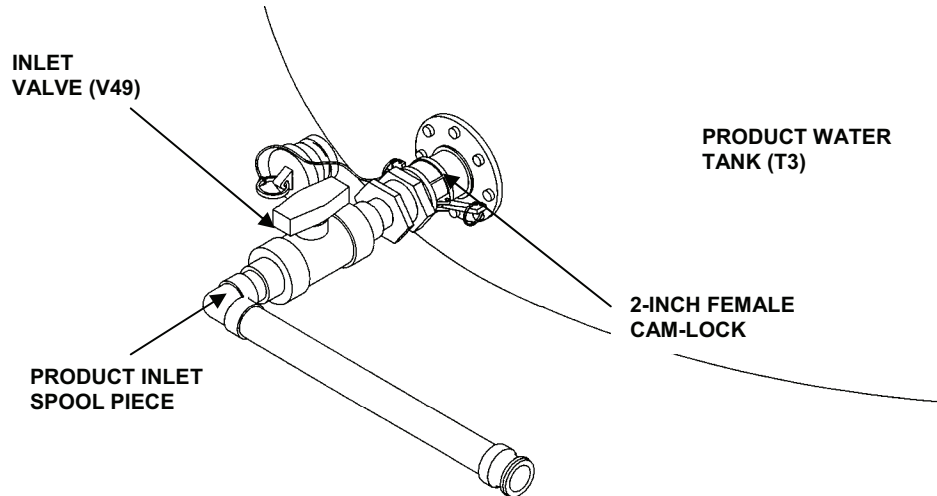

Figure 15. Product Tank Inlet Connection.
34. Connect the product inlet spool piece to the product water tank (T3) connection (AA). See Figure 15.
35. Make sure that ball valve (V49) on the inlet spool piece is open. See Figure 15.